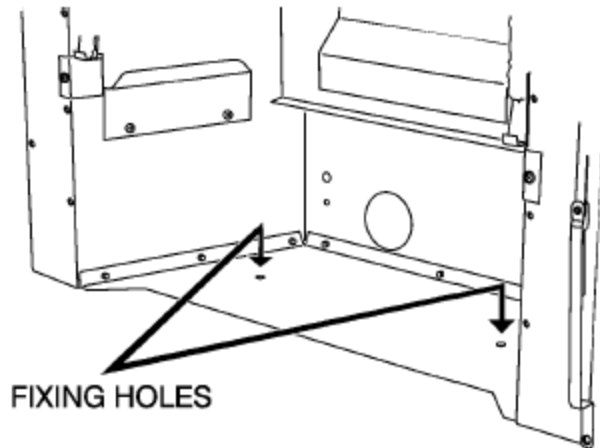

Figure 21. Floor fixing
8. Drill a hole into the fireplace floor through each of the two holes in the base of the convection box using a suitably sized masonry drill (See figure 21).